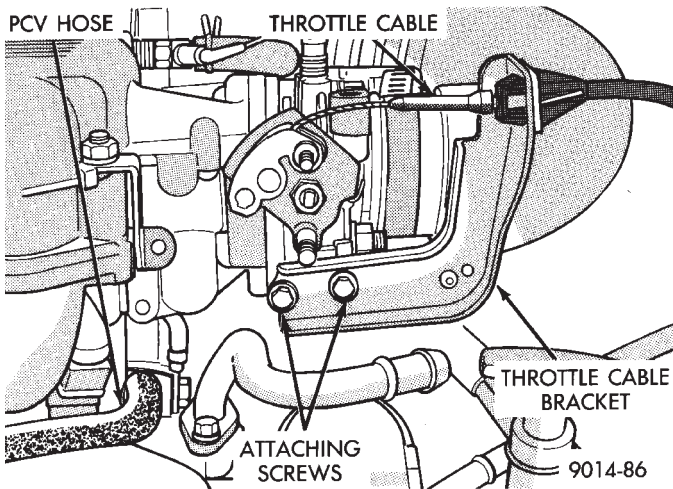

Fig. 6 Throttle Cable Attachment
- (1) Perform the Fuel Pressure Release Procedure.
- (2) Disconnect negative cable from battery.
- (3) Remove air cleaner to throttle body hose.
- (4) Remove throttle cable (Fig. 6).